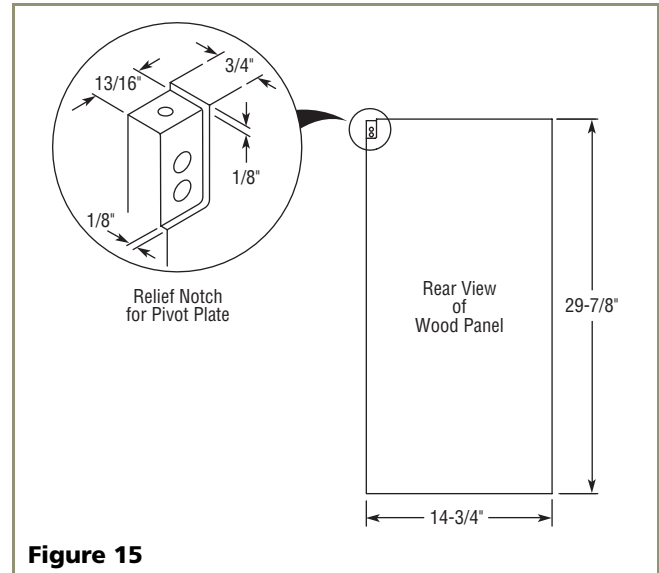
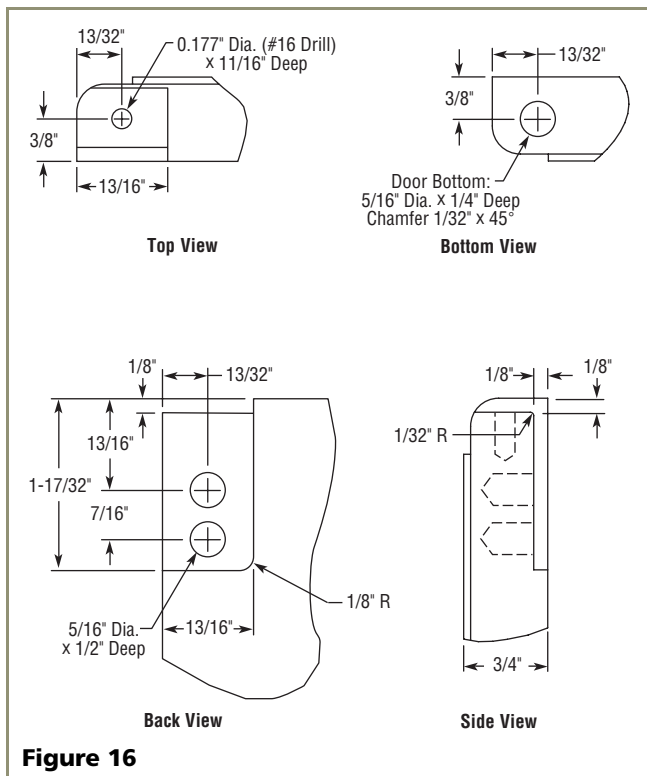

Figure 15
Figure 16
1. Cut the overlay to the following dimensions (see **Figure 15**).
2. Create a relief (see **Figure 15**) for pivot plate by cutting notch in top corner and coinciding back corner of overlay panel. Refer to **Figure 16** for exact specifications.
3. Drill holes for pivot plate mounts (see **Figure 16**, Back View).
4. Drill hole for upper door hinge (top of panel) (see **Figure 16**, Top View).
5. Drill hole for lower door hinge (see **Figure 16**, Bottom View).